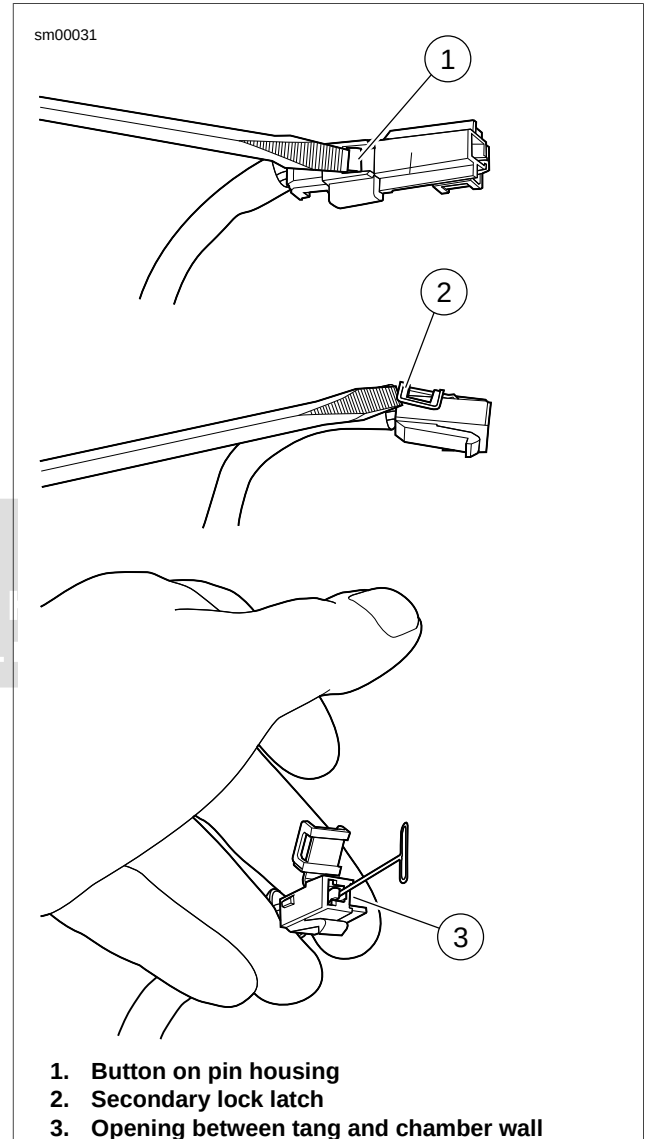

Figure A-40. 480 Metri-Pack Connector: Remove Socket Terminal
See Figure A-40. Using small flat blade screwdriver, depress button (1) on pin housing (red wire) side of the connector and pull apart the pin and socket housings.
1. See Figure A-40. Bend back the latch (2) slightly and free one side of secondary lock, then repeat to release the opposite side. Rotate the secondary lock outward on hinge to access terminal in chamber of connector housing.
2. On the mating end of the connector, note the tang in the square shaped opening centered next to the terminal. Gently insert the point of a stick pin or large safety pin into the opening (3) between the tang and the chamber wall until it stops.